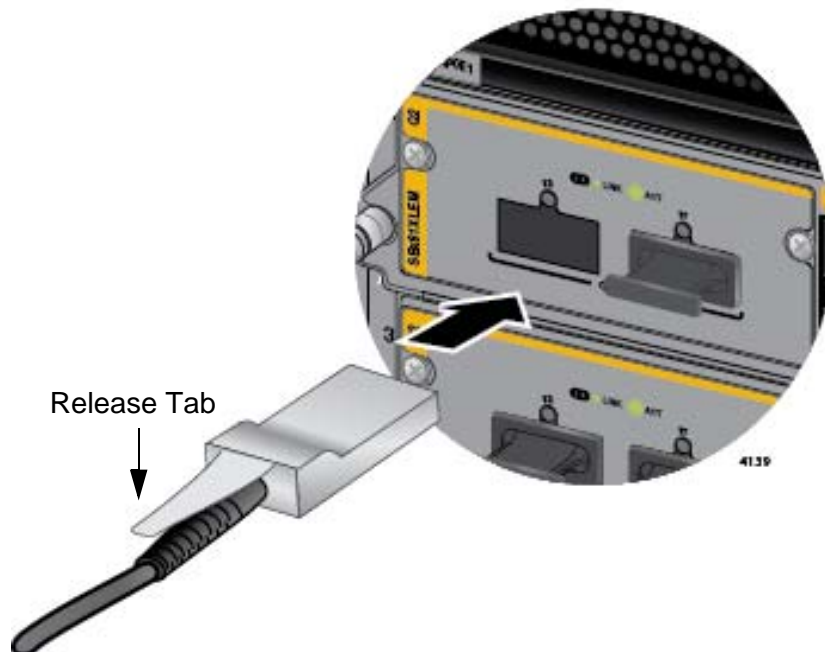

Figure 117. Sliding the AT-QSFPCU Cable into the Slot
2. Orient the connector on the AT-QSFPCU Cable with the release tab on top and slide it into the slot until it clicks into place. Refer to Figure 117 on page 190.